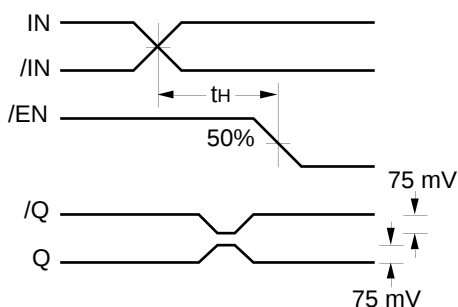

Figure 2. Hold Time
6. The hold time is the minimum time that /EN must remain asserted after a negative going IN or a positive going /IN to prevent an output response greater than  $\pm 75\text{mV}$  to that IN, /IN transition (see Figure 2).